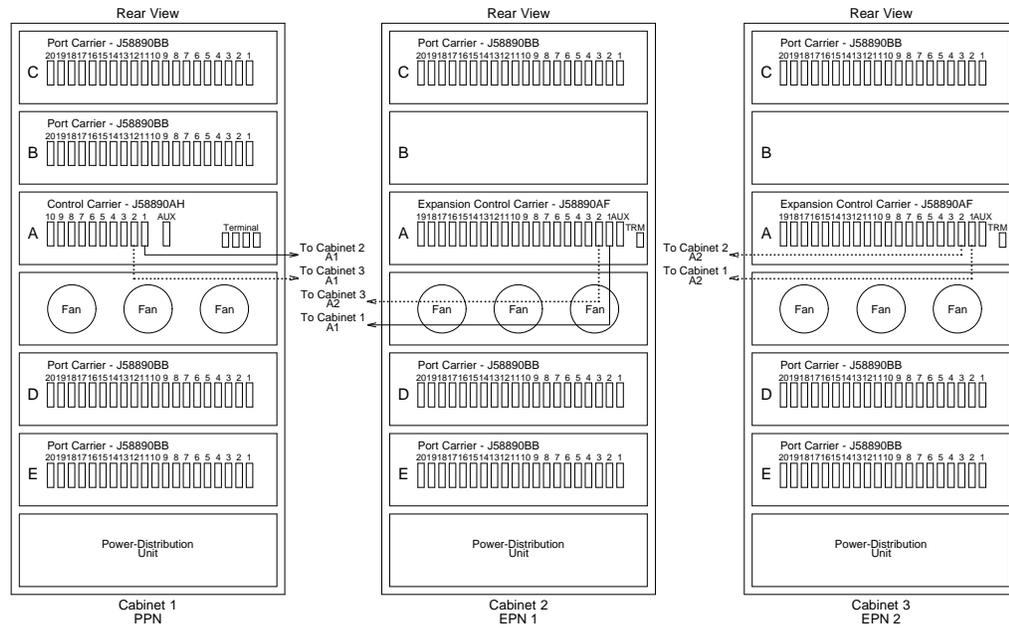
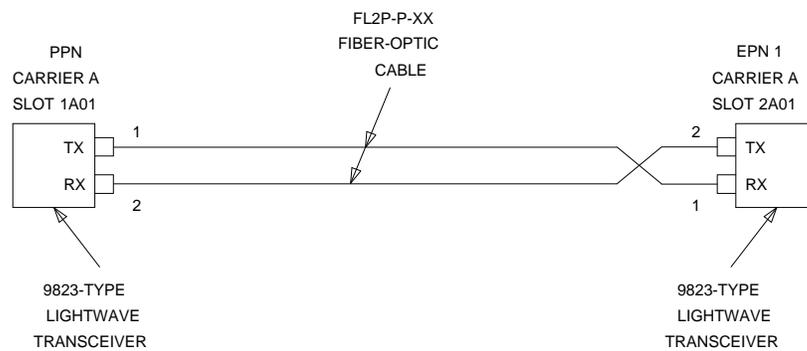
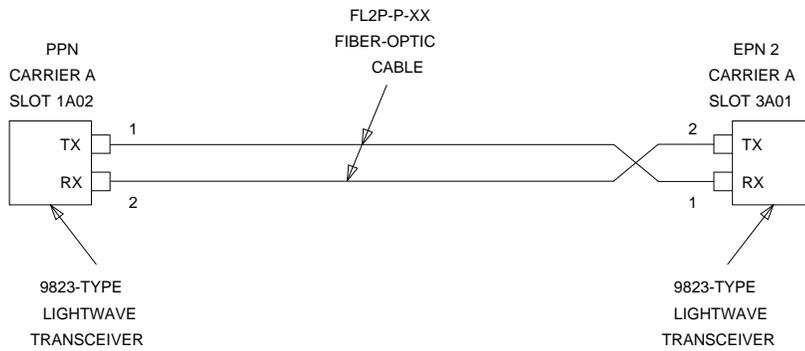
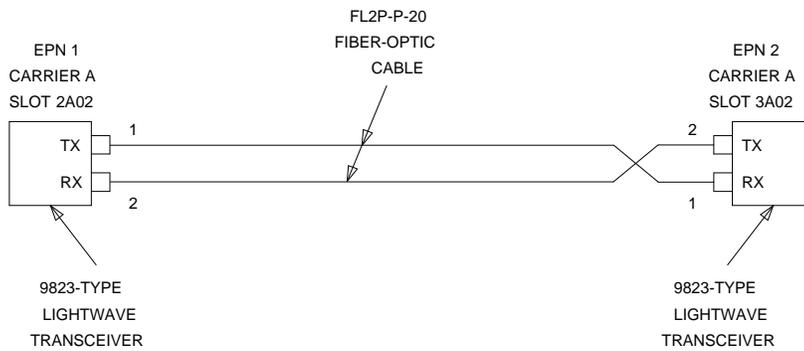

Figure 7-10. Standard-Reliability G3i V4 with Two or Three Port Networks
Figure 7-11. Fiber-Optic Connections PPN to EPN1
Figure 7-12. Collocated Fiber-Optic Connections PPN to EPN2
Figure 7-13. Collocated Fiber-Optic Connections EPN1 to EPN2
The connectors on the lightwave transceivers are labeled either “TX” (transmit) or “RX” (receive), while the fibers attached to each connector are numbered either “1” or “2.” A viable fiber connection is only made when both fibers in each cable (that is, “1” and “2”) route from the “TX” connector of a port network to the “RX” connector of its adjacent port network. For an example, refer to Figure 7-11 on page 7-37.
1. Behind control carrier A of PPN cabinet 1 (see Figure 7-10, Figure 7-11, Figure 7-12, and Figure 7-13):